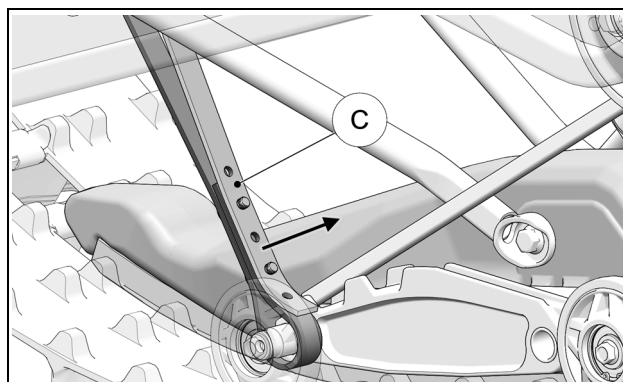

Figure 17
- Lift the end of the strap (C) off of the bolts, taking care that the bolts stay in their position. Figure 17.